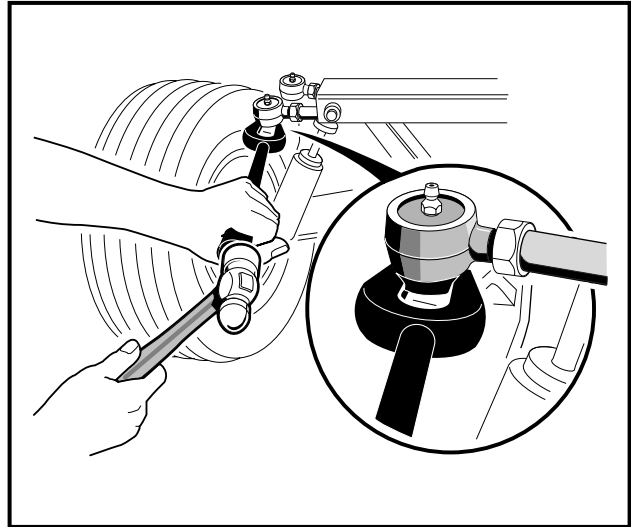
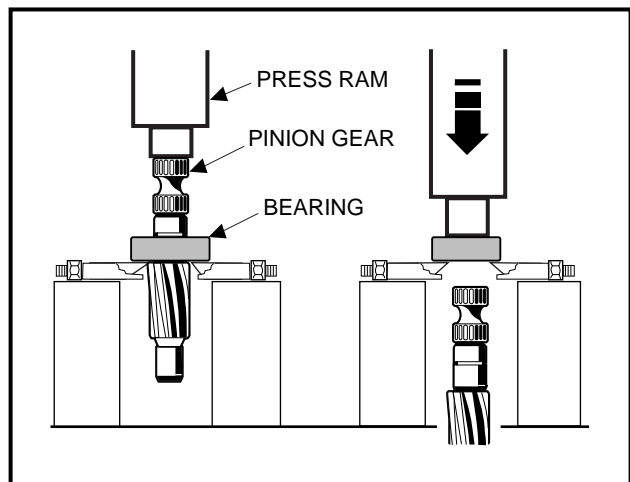
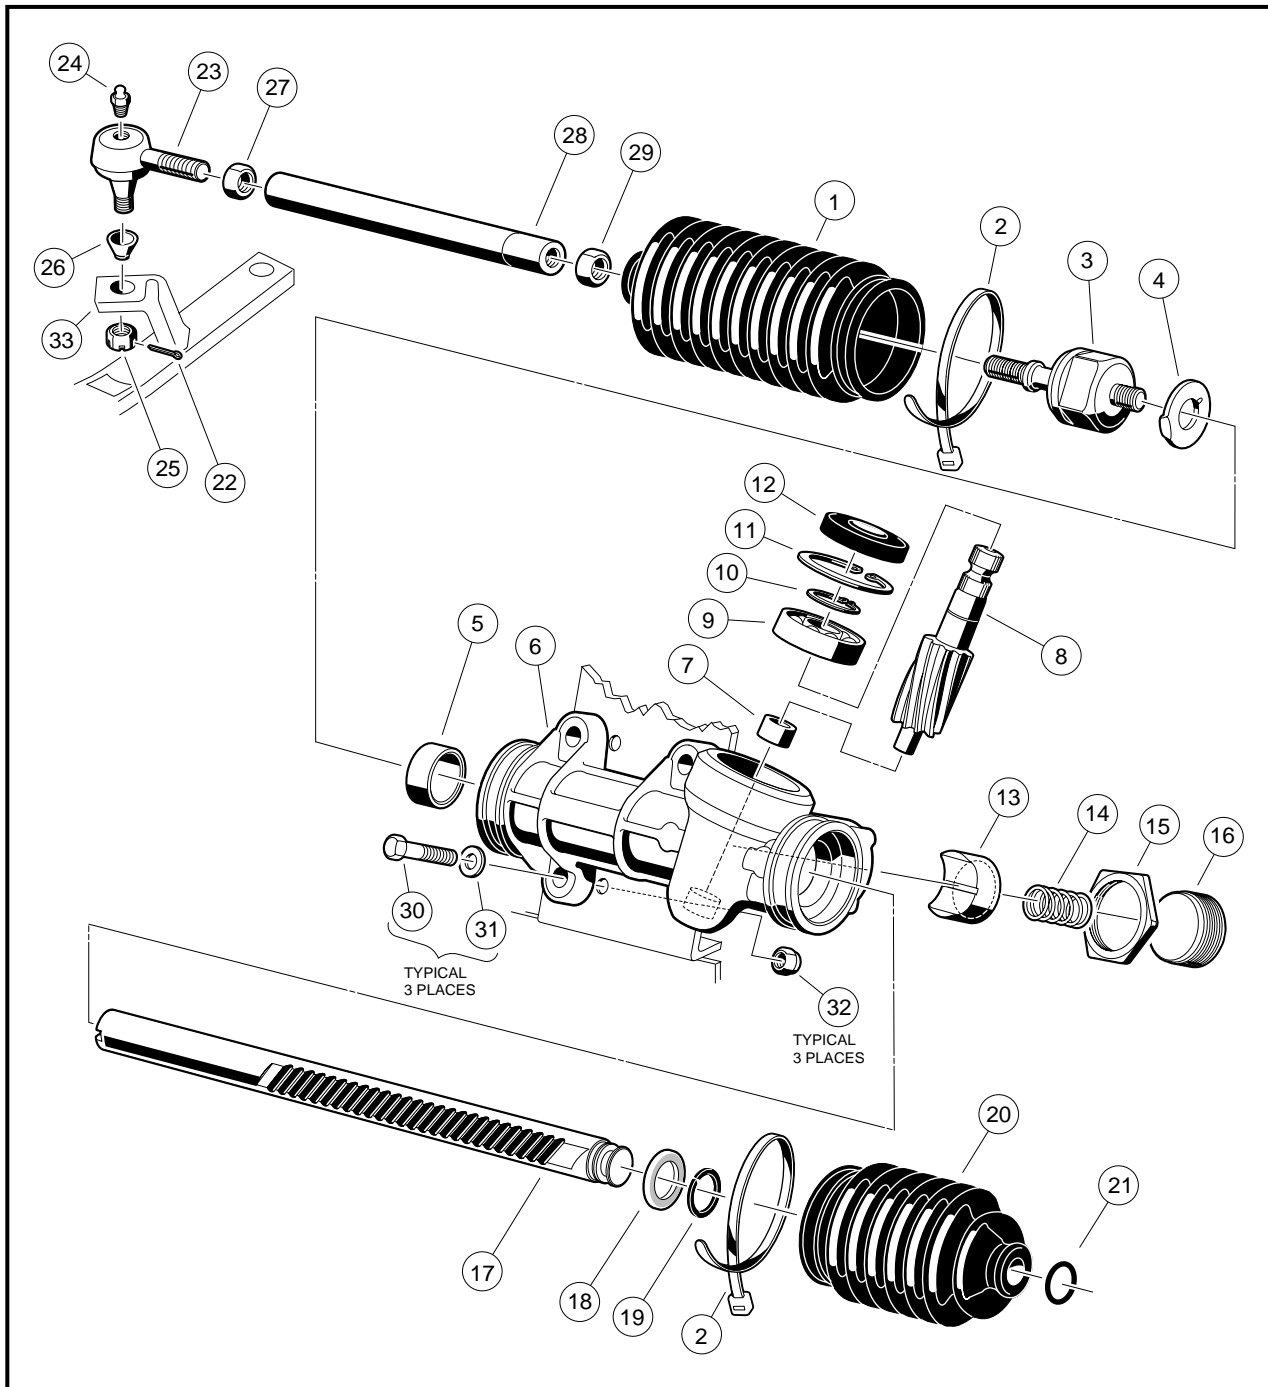
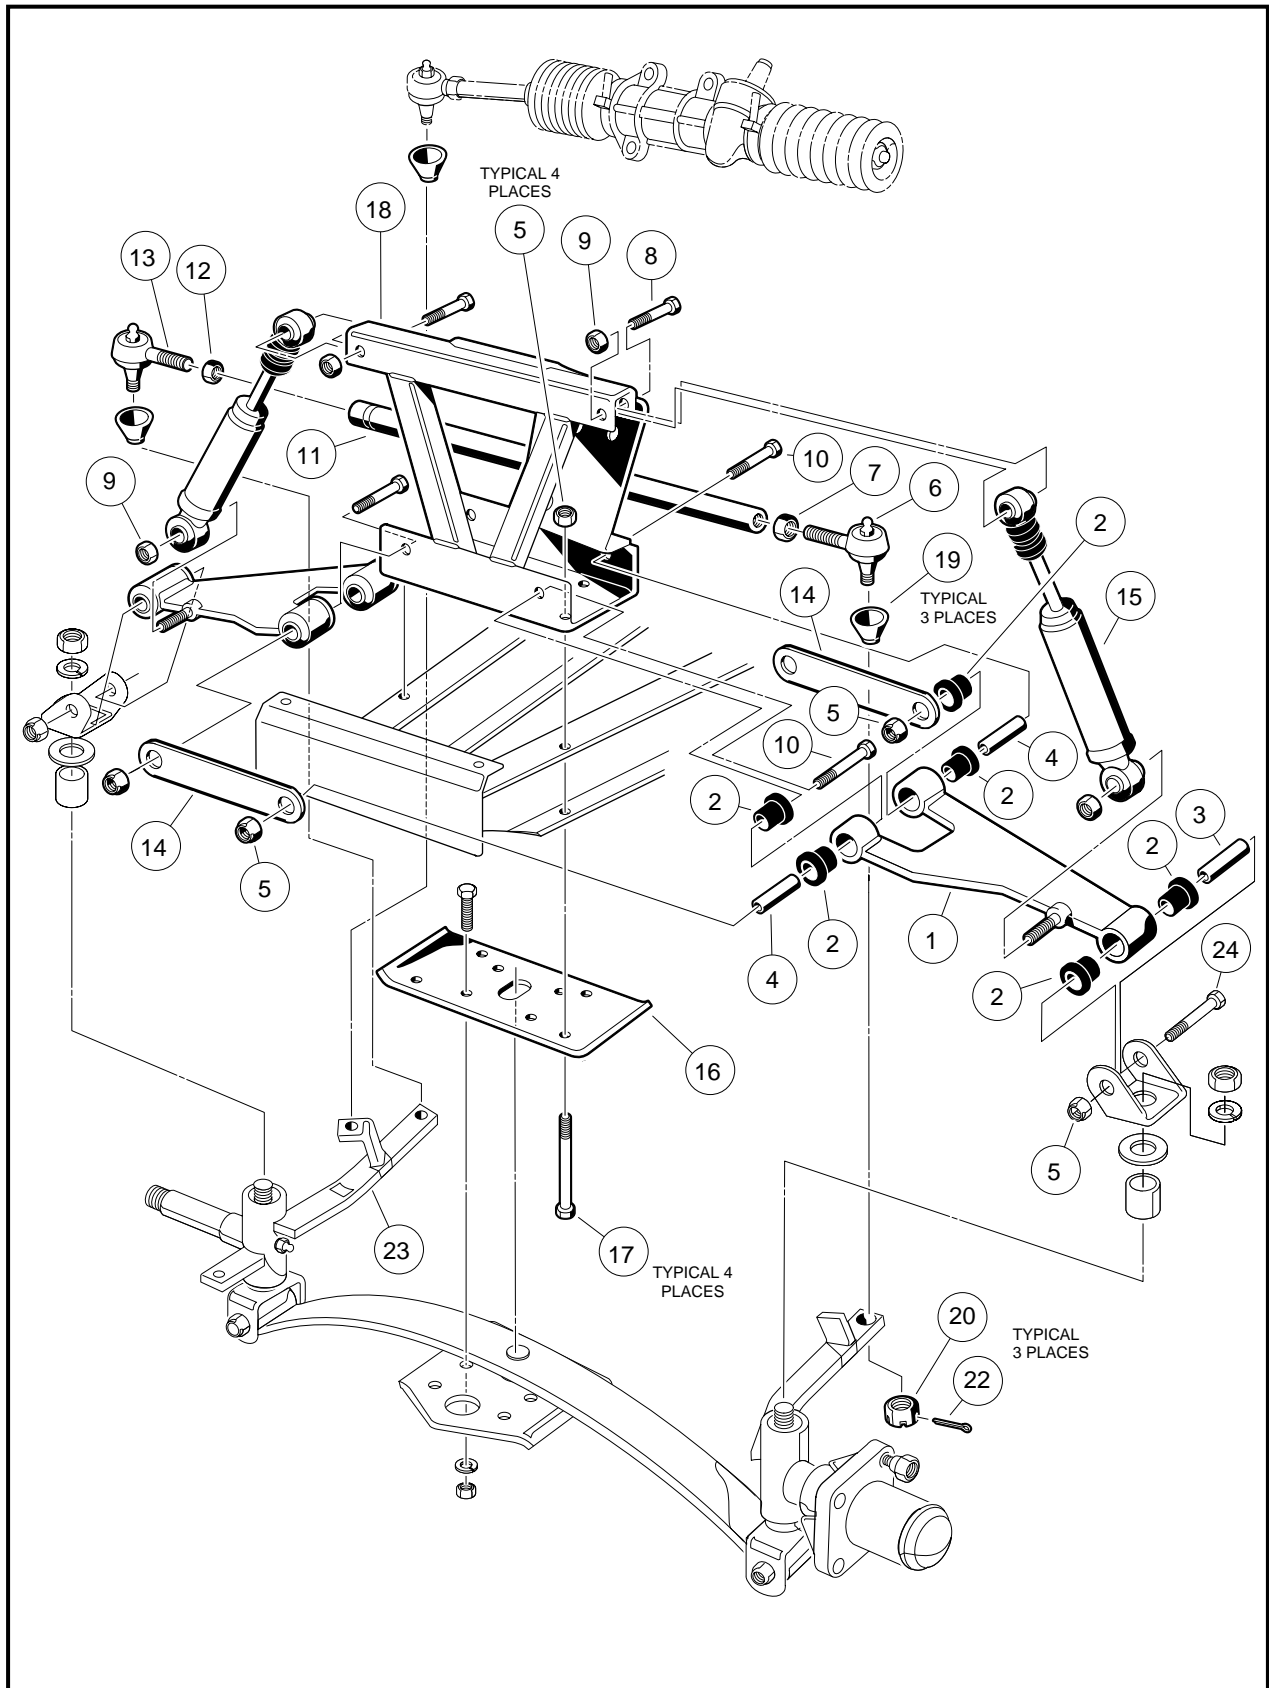

Figure 7-8 Ball Joint Tool
Figure 7-10 Remove Bearing from Pinion
Figure 7-12 Steering Gear
Figure 7-21 Two-Wheel Brake Vehicle – Upper Portion
2. Loosen the nuts (27 and 29) and turn the drag link (28) (**Figure 7-12, Page 7-10**) to adjust the drag link rod. Adjust the link rod with the steering wheel turned all the way to the right, so the passenger side spindle stop lightly touches the passenger side A-Plate. The internal stop on the rack must reach its limit of travel at the same time the spindle stops against the passenger side A-plate (with vehicle wheels turned to the right).
3. When all adjustments have been completed, tighten the nuts (27 and 29) on the drag link assembly with an open end wrench. Tighten nuts to 21 ft-lb (28.4 N·m) (**Figure 7-12, Page 7-10**).
- WHEN TIGHTENING THE NUTS (27 AND 29), MAKE SURE THE DRAG LINK (28) DOES NOT TURN (**FIGURE 7-12, PAGE 7-10**).
4. Straighten wheels and then turn steering wheel from lock to lock. Wheels should turn smoothly and easily. If steering wheel does not turn smoothly and easily, inspect steering assemblies; e.g., ball joints (23) (**Figure 7-12, Page 7-10**) and (6 and 13) (**Figure 7-21, Page 7-17**), spindle bushings (3 and 4) (**Figure 7-22, Page 7-18**), wave washers (20) (**Figure 7-22, Page 7-18**), and rack assembly (17) (**Figure 7-12, Page 7-10**). Also inspect front suspension assemblies; e.g., A-Plates (1) (**Figure 7-21, Page 7-17**) urethane bushings (2) (**Figure 7-21, Page 7-17**) and leaf springs (6) (**Figure 7-22, Page 7-18**). Replace components as necessary.
2. Remove the cotter pin (22) and ball joint retaining nut (25) (**Figure 7-12, Page 7-10**).
3. Using a ball joint removal tool, remove the ball joint (23) (**Figure 7-12, Page 7-10**) from the spindle assembly. **See Figure 7-8, Page 7-8.**
4. Remove the bolts (30), washers (31), and locknuts (32) from the steering rack assembly mounting bracket (**Figure 7-12, Page 7-10**).
- THE BALL JOINT (23) (**FIGURE 7-12, PAGE 7-10**) HAS LEFT-HAND THREADS.
1. Remove ball joint and inspect it for excessive wear (**Figure 7-8, Page 7-8**).
2. Remove the drag link (28) (**Figure 7-12, Page 7-10**).
3. Remove both bellows clamps (2) (plastic wire ties) (**Figure 7-12, Page 7-10**).
4. Remove the hex nut (29) and slide off the dust seal bellows (1) (**Figure 7-12, Page 7-10**).
5. Remove the retaining ring (21), then slide off dust seal bellows (20) (**Figure 7-12, Page 7-10**).
6. Remove the rack screw locknut (15), rack guide screw (16), rack guide pressure spring (14), and the rack guide (13) (**Figure 7-12, Page 7-10**).
7. Remove the universal joint assembly from the pinion (8) by fully removing the bolt and then sliding off the universal joint (**Figure 7-12, Page 7-10**).
8. If necessary, remove the dust seal (12) (**Figure 7-12, Page 7-10**). See following **NOTE**.
- IF THE DUST SEAL (12) IS REMOVED, REPLACE WITH A NEW ONE (**FIGURE 7-12, PAGE 7-10**).
9. Using snap ring pliers, remove the internal snap ring (11) (**Figure 7-12, Page 7-10**).
11. If the ball bearing (9) has been damaged, remove the external snap ring (10) (**Figure 7-12, Page 7-10**) and press the bearing off (**Figure 7-10, Page 7-8**).
12. Remove retaining ring (19) and stop washer (18), then remove rack (17) from housing (6) (**Figure 7-12, Page 7-10**).
14. Inspect the bushing (5) for excessive wear. If wear is excessive, replace the steering box assembly (Club Car Part No. 101878302) (**Figure 7-12, Page 7-10**).
3. Apply a liberal amount of EP grease to the teeth of the rack (17), then slide the rack through the bushing (5) and housing (6). Install the stop washer (18) and retaining ring (19) to the end of the rack (**Figure 7-12, Page 7-10**).
4. If the bearing (9) was removed, press on a new bearing, exerting all pressure on the inner race (grease the bearing before installing it). Then install the external snap ring (10) (**Figure 7-12, Page 7-10**).
5. If the needle bearing (7) is damaged, the steering box assembly (Club Car Part No. 101878302) must be replaced (**Figure 7-12, Page 7-10**).
6. Install pinion (8) and bearing (9) assembly into the housing (6) (**Figure 7-12, Page 7-10**). Make sure the rack gear teeth will mesh with the gear teeth on the pinion. The rack may need to be rotated slightly while lightly tapping on the pinion-bearing assembly with a rubber mallet. **See following CAUTION.**
7. Install the internal snap ring (11) (**Figure 7-12, Page 7-10**).
9. Apply a small amount of grease to the rack guide (13) where it comes into contact with the rack (17) (**Figure 7-12, Page 7-10**).
10. Place a few drops of Loctite® 222 to the threads of the screw (16) (**Figure 7-12, Page 7-10**).
11. Install the rack guide (13), pressure spring (14), and screw (16). The screw should be threaded in until a rotational torque of 10 in-lb (1.13 N-m) is achieved (**Figure 7-12, Page 7-10**).
12. Install the dust seal bellows (20) and retaining ring (21) **(Figure 7-12, Page 7-10)**.